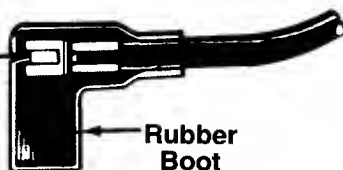

FIGURE 6.
1. Attach spark plug wire to spark plug. If unit is equipped with a rubber boot over the end of the spark plug wire, make certain the metal loop on the end of the spark plug wire (inside the rubber boot is fastened securely over the metal tip on the spark plug. See figure 6.